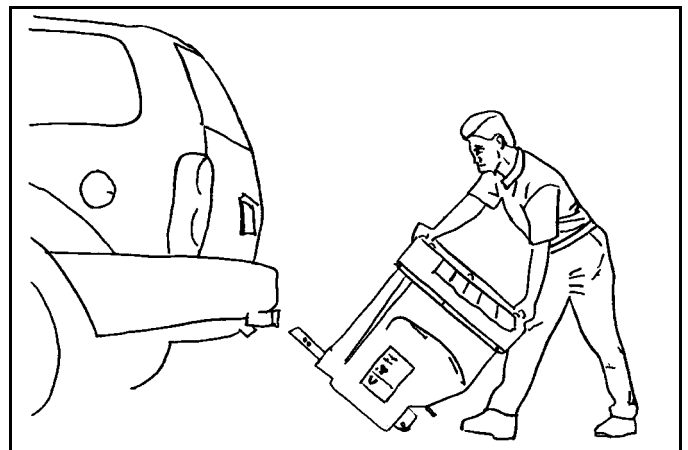

Figure 2-4
6. Tilt and roll spreader to storage location. (See Figure 2-4)